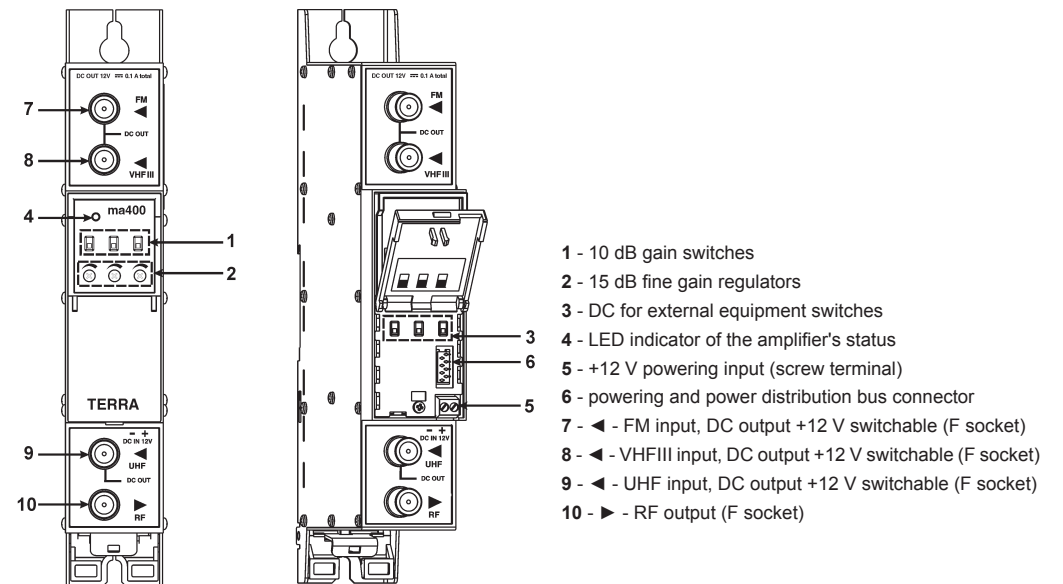

Figure 1. External view of the amplifier
Turn on the regulators clockwise with supplied plastic screw driver to increase gain for each sub-band (figure 1, pos. 2). The powering circuit has overload and short circuit protection.